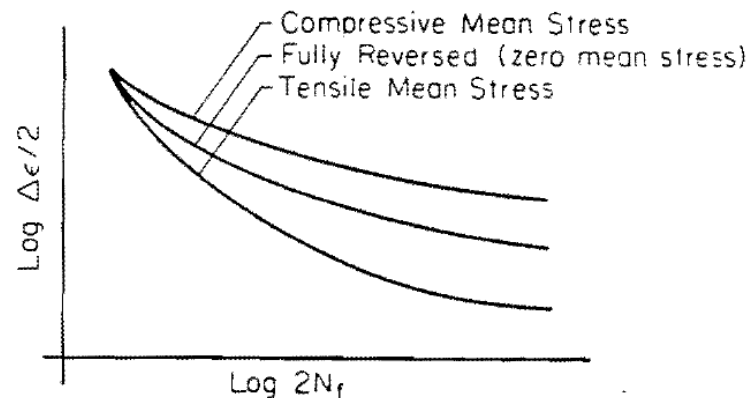

Figure 2.21* Effect of mean stress on strain-life curve
- Mean stress effect can either **increase the fatigue life** with a nominally **compressive load** or **decrease it with a nominally tensile value** (Fig. 2.21*)